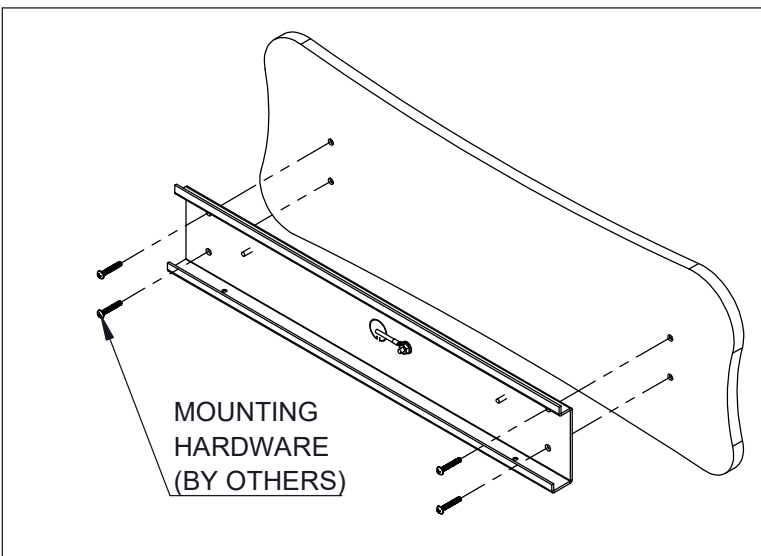

Figure 3
3. Attach Mounting Plate to wall with Mounting Hardware (provided by others) (Fig. 3).